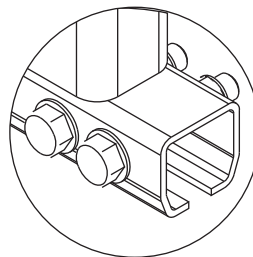

Fig. 13b End Stop Kit
- e) Finish by securing the remaining end stop bolts and redundant end stops at the other end of the track (fig 13b).